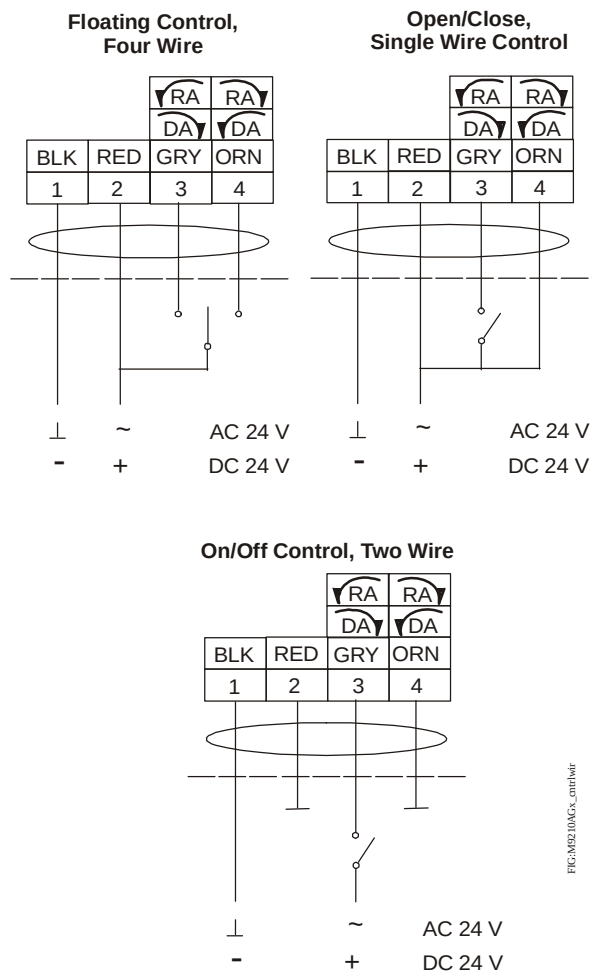

Figure 10: Control Wiring Diagrams
The M9210-AGx-3 Floating Electric Spring Return Actuators are factory set at DA, 90° of travel as illustrated in Figure 12. To reverse the rotation, either move the mode selection switch from Direct Acting (DA) to Reverse Acting (RA), or reverse the control input wiring to GRY 3 and ORN 4 (as illustrated in Figure 10).